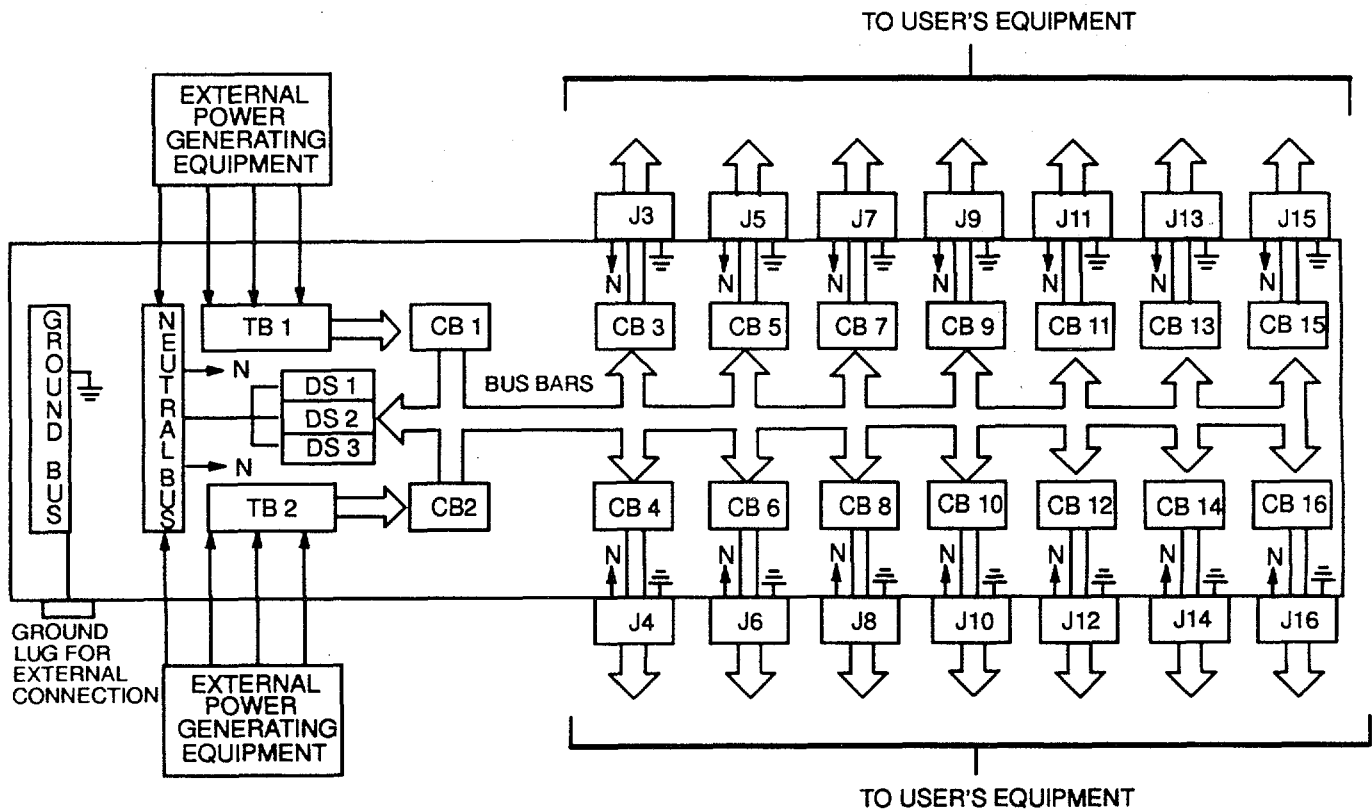

Figure 1-3. Power Distribution Panel Block Diagram.
1.11 PRINCIPLES OF OPERATION (FIGURE 1-3).